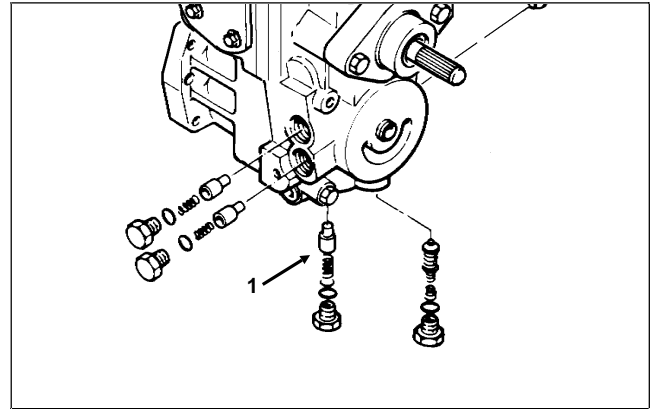

Figure 33
2. Remove the charge relief valve hex plug (Fig. 33).